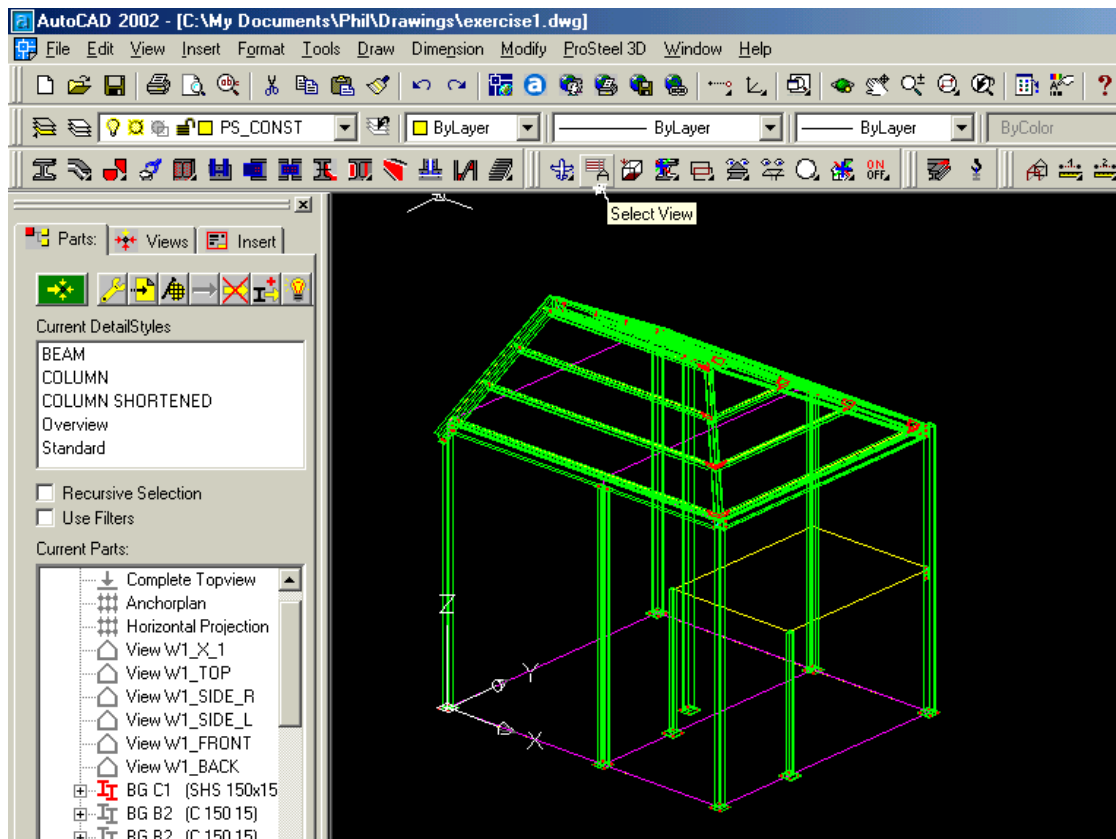
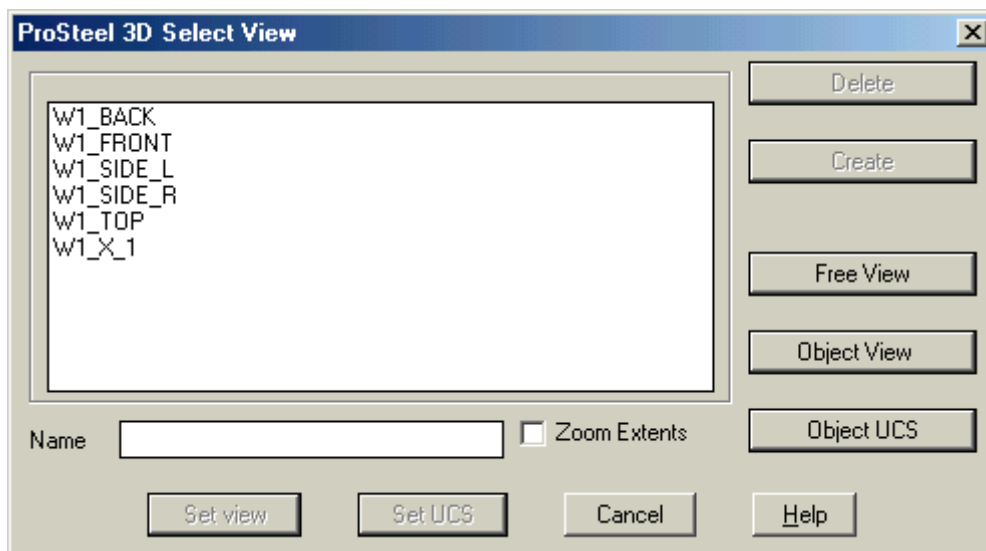

Fig. 33
Fig. 34
- Next hit select view (Fig. 33) and a Dialog box will come up (Fig. 34) type in a name and press enter. The create button will highlight and then select this button. Press cancel once the view has been formed and is in the list.